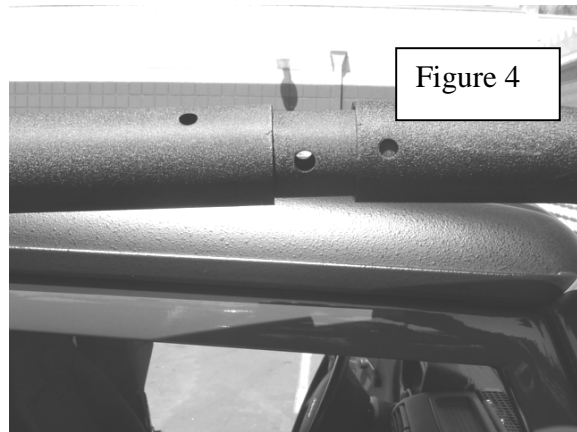

Figure 4
7. Insert the front overhead bar (straight bar) into the front upright. Insert a 1/4/20 x 2.5" Allen Head Bolt with a flat washer, through the bar and the upright. Then place another flat washer, a lock washer and the locking nut on the bar. **DO NOT TIGHTEN**. Have an assistant hold the bar in place for steps 8&9 (important or you vehicle may get scratched) (Figure 4)